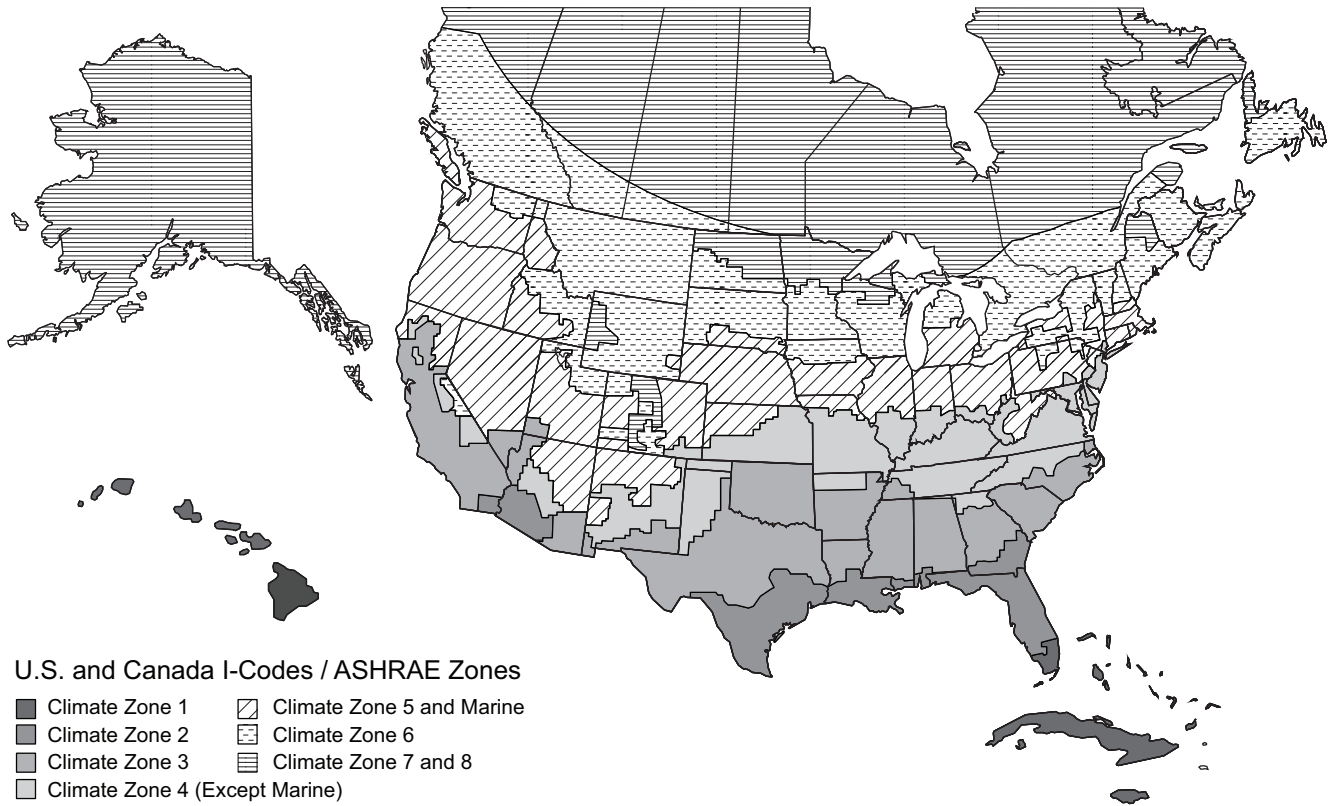

Fig. 67 — U.S. and Canada Climate Zones
- a. See Fig. 67 for map of U.S. and Canada climate zones.